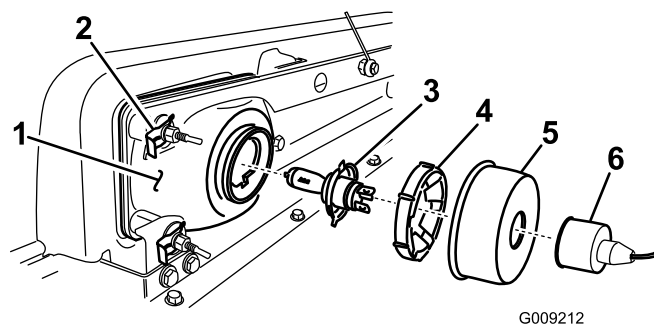

Figure 30
2. Remove the protective rubber boot (Figure 30).
2. Remove the headlight assembly by moving it forward through the opening in the front bumper (Figure 30).
3. Install the new headlight through the opening in the bumper (Figure 30). Ensure the adjustment posts are lined up with the holes in the mounting bracket in the bumper.